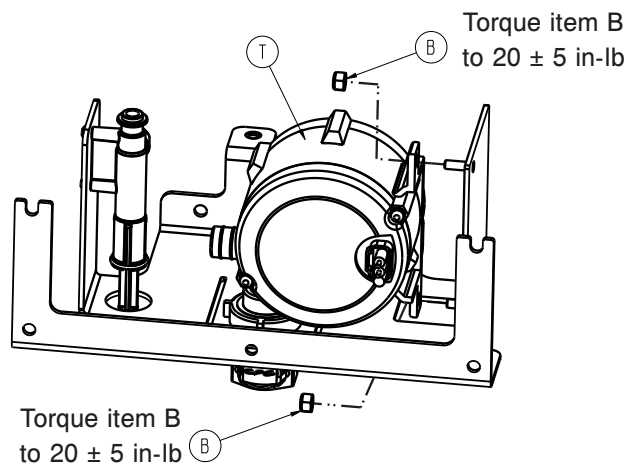

Figure 21 – Screws that secure the fluid pump to the fluid bracket
7. Pull up and rotate the fluid assembly bracket up to gain access to the fluid pump (T).
9. Using a 3/8" combination wrench, remove and save the two nuts (B) that secure the fluid pump to the fluid bracket (Figure 21).